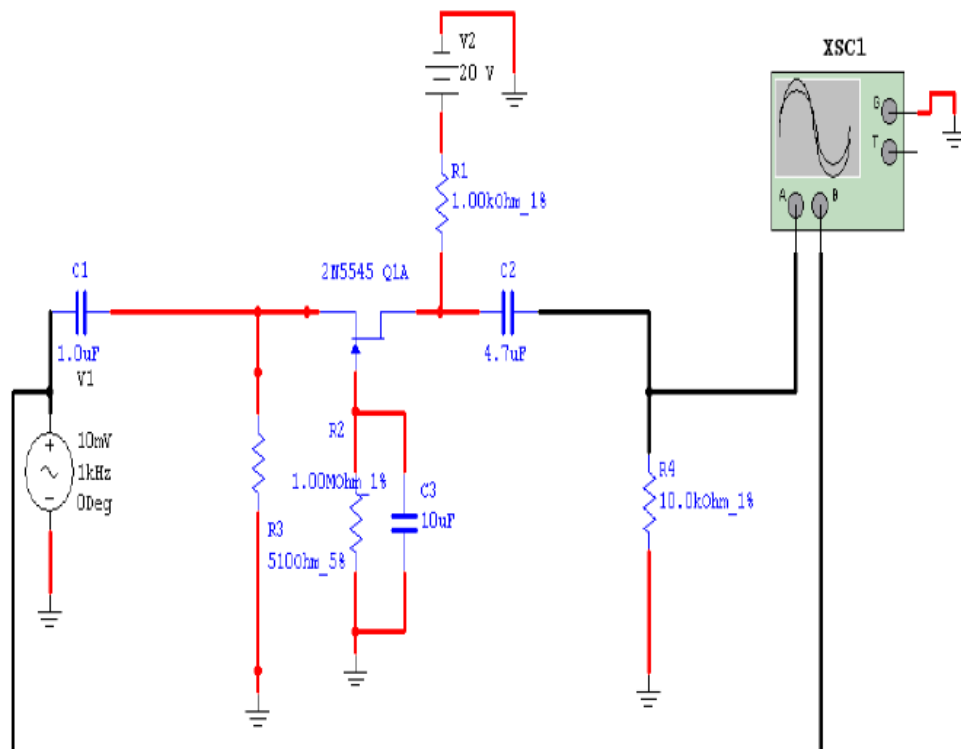

Fig.15 CG JFET amplifier
- Construct the circuit shown in Fig.15; with the above presented components.